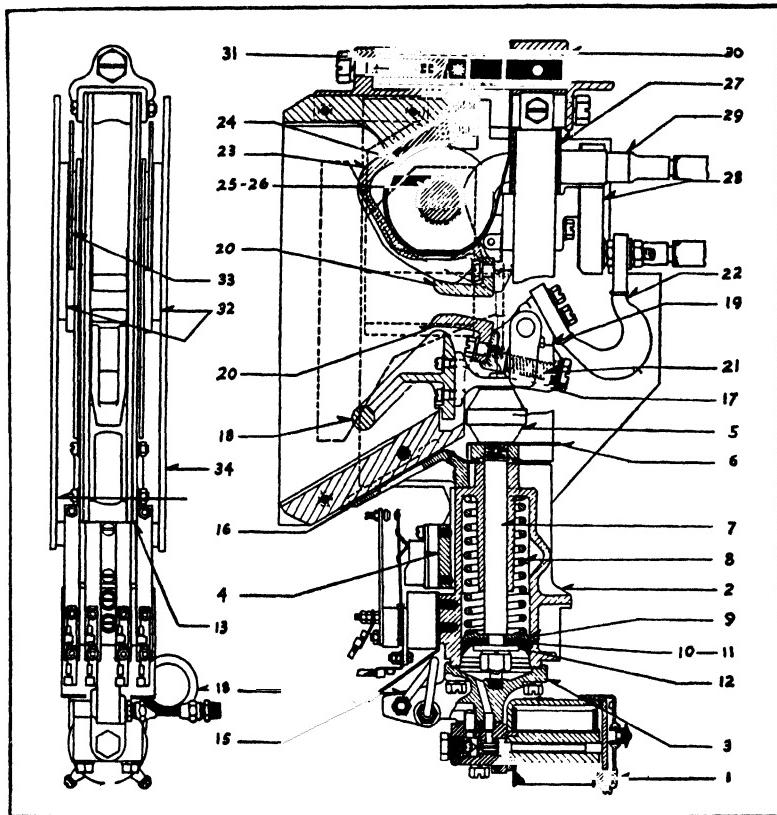

Fig. 24. Unit Switch
*Electro-pneumatically Operated Unit Switches—(where large currents are to be interrupted, Fig. 24)*